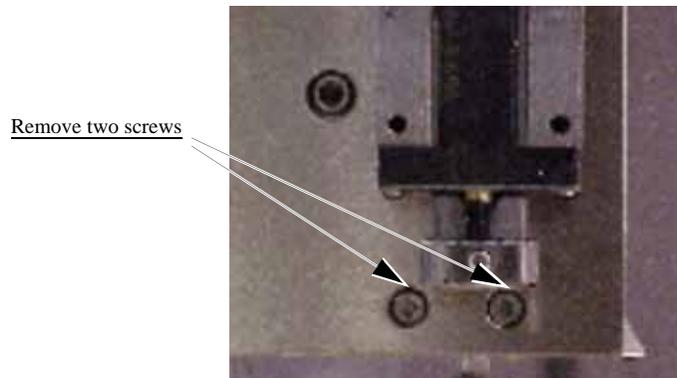

Figure 6-88—Removing lower screws
- 6a) Using a 2.5mm Allen wrench, remove the two lower screws that hold the PNP head in place. See *Figure 6-88*.